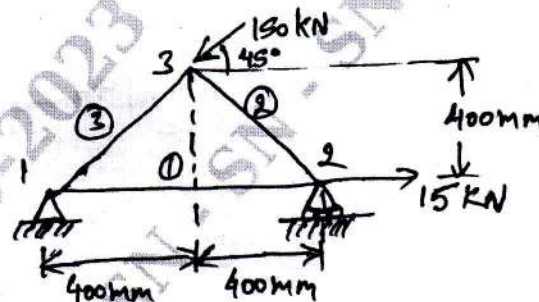

Fig Q6(b)
- b. Consider the three bar truss shown in Fig Q6(b). Determine the nodal displacements and stresses in each member. Find the support reaction also, $A_1 = 1500\text{mm}^2$, $A_2 = A_3 = 2000\text{mm}^2$ and $E = 200\text{GPa}$.